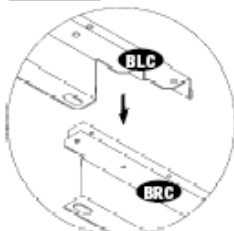

Fig.1
3. Assemble base bar back left (BLC) and base bar back right (BRC) with four (S1) screws. See fig. 1 & 2.